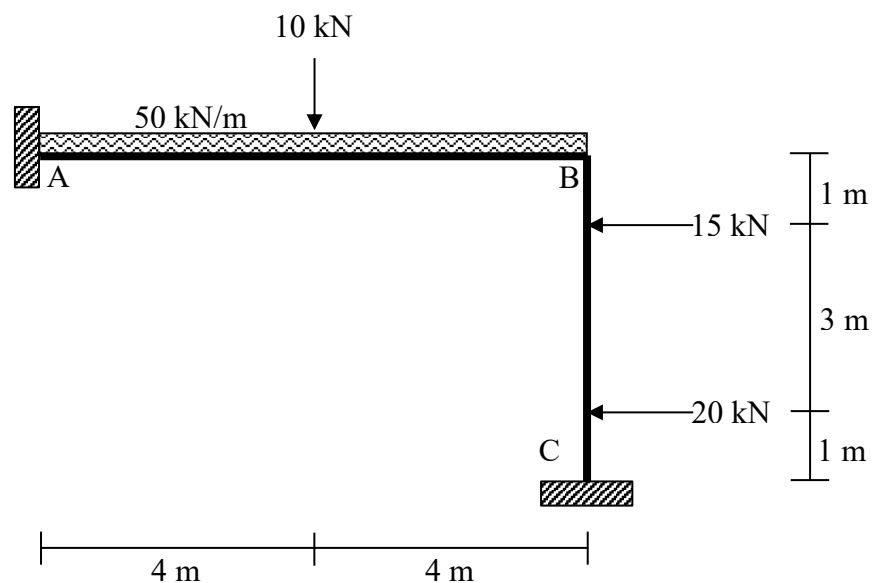

Figure B4 / Rajah B4
A non-sway frame is subjected to uniformly distributed load and point load as shown in Figure B4. The value of EI is constant for each span and value of stiffness factor (K) at joint B is given as follows:
- (a) Identify the distribution factor (DF) of point A, B and C in Figure B4.